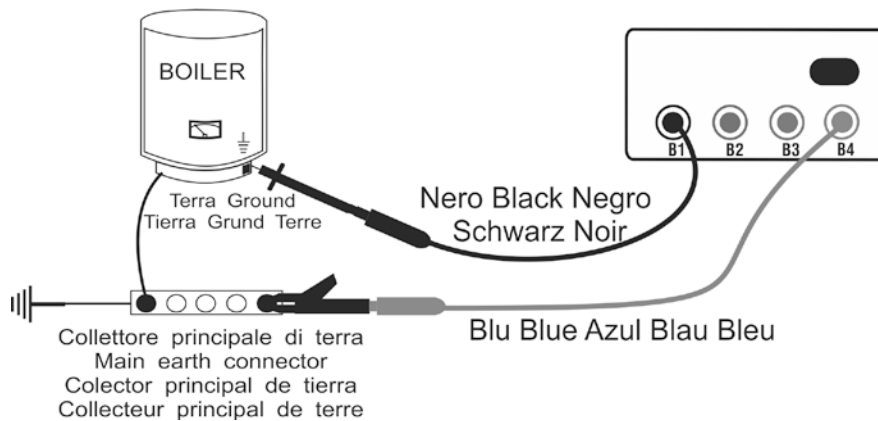

Fig. 4: Instrument connection for LOW Ω test
6. Connect the instrument terminals to the ends of the conductor whose continuity you want to test (see Fig. 4)